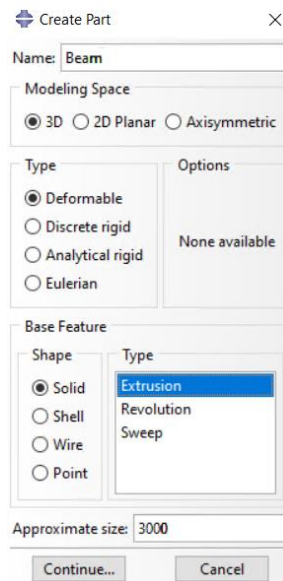

Figure 1-3 – Create Part dialog box.
1. In the Model Tree, double-click on **Parts** to create a new part in the model **BEAM**. The **Create Part** dialog box appears, as shown in Figure 1-3.